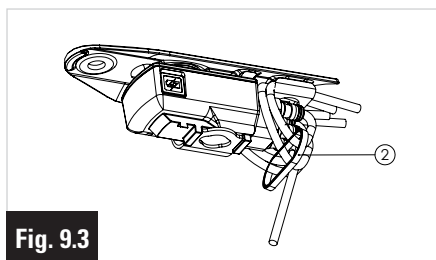

Fig. 9.3
- 7- Pass a plastic tie collar ② around the 4 wires under the box to hold them together. Do not take the wire that goes into the frame (fig 9.3)